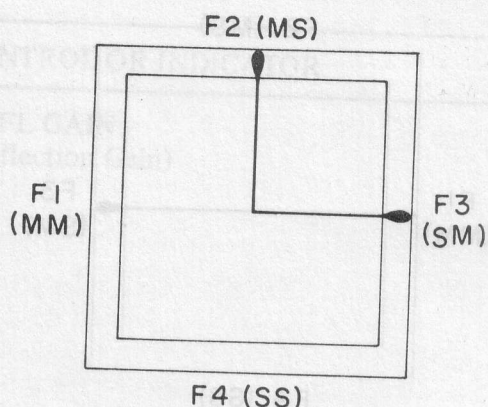

Figure 4-10.—FSK signal condition transmitting. 264.36
When the input signal is an FSK signal, properly tuned, the higher frequency will correspond to F2 (M) and the lower frequency to F3 (S). (Refer to figure 4-10.)
i. The procedures for tuning FSK signals are the same as those for DFSK signals, with the exception of the INPUT BANDWIDTH setting and the CRT DISPLAY presentation. A properly tuned FSK signal should appear as depicted in figure 4-10.